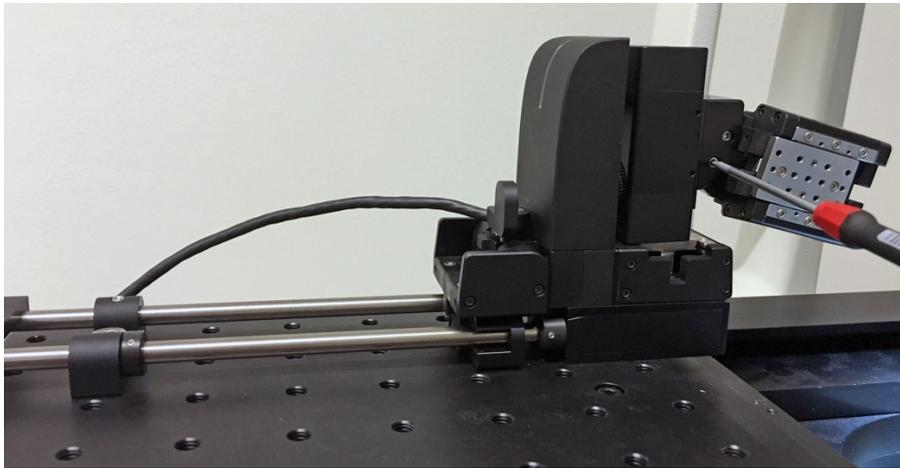
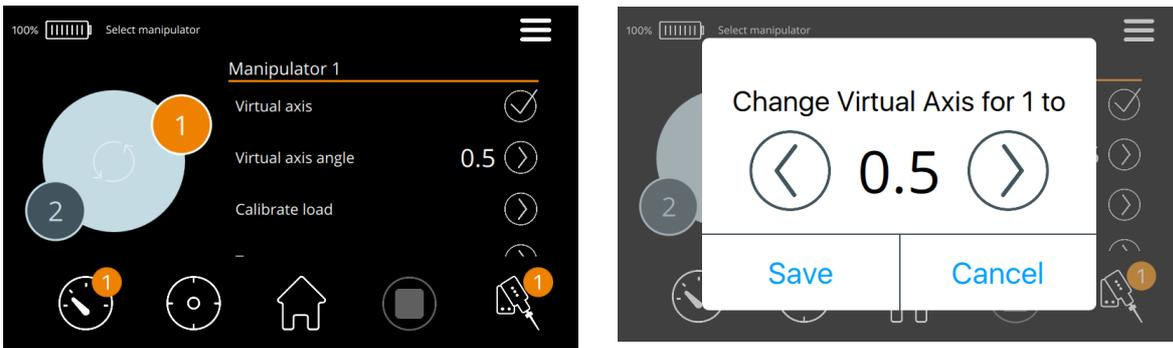

Figure 5. Adjusting approach angle
Figure 17. Virtual axis
For true approach angle, loosen two screws from the x-axis tilt adjustment piece, adjust the angle to preferred setting and tighten the screws (Fig. 5). Poll axis angle feature in the TSC Manipulator setting menu shows the tilt angle during the adjustment (see 3.2.1.3).
2. For left handed configuration x-axis attachment surface is facing towards you when the manipulator is placed on the left hand side of the sample (see Fig. 5).
The virtual axis feature enables moving the microelectrode tip in the horizontal plane when x-axis is tilted for true approach angle (Fig. 5). To set up virtual axis, select Virtual axis angle and adjust according to installation (Fig. 17). Value shown is the current setting and value measured value from the tilt angle sensor is shown in the parenthesis. If virtual plane is not totally horizontal when observing the microelectrode tip, it is possible to fine tune the setting 0.1 degree at the time until the plane is correct. Virtual axis can also be toggled on / off from main view quick button (see 2.3.1). In case 4 wheel RW is used together with triple axis manipulators, the 4th wheel will operate the virtual axis.